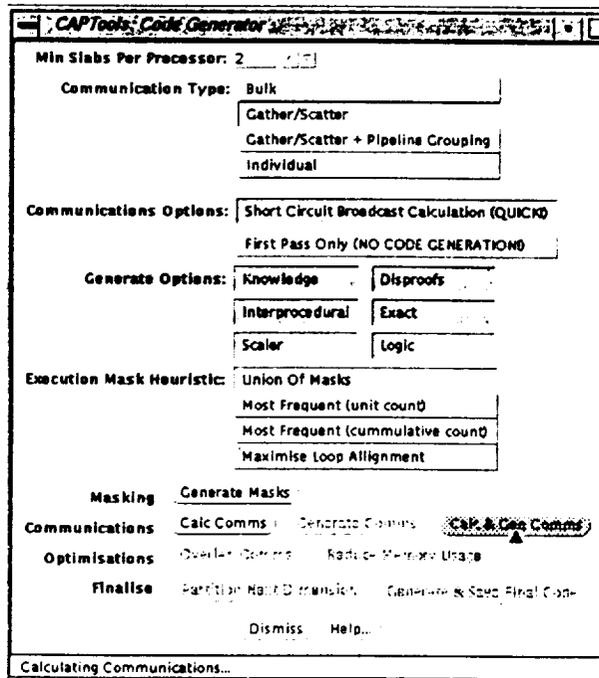

Figure T5-5: The Code Generator window for the final generation of message-passing code.
7. **Generate masks and communications.** Start the Code Generator from the CAPTools main window. Choose 2 for **Min Slabs Per Processor**, which indicates at least 2 slabs in the partitioned direction to be used for the execution and reduces number of communications calls placed. Select **Gather/Scatter** for **Communication Type**. Click **Generate Masks** to start the mask generation and **Calc & Gen Comms** to generate communications. See Figure T5-5.